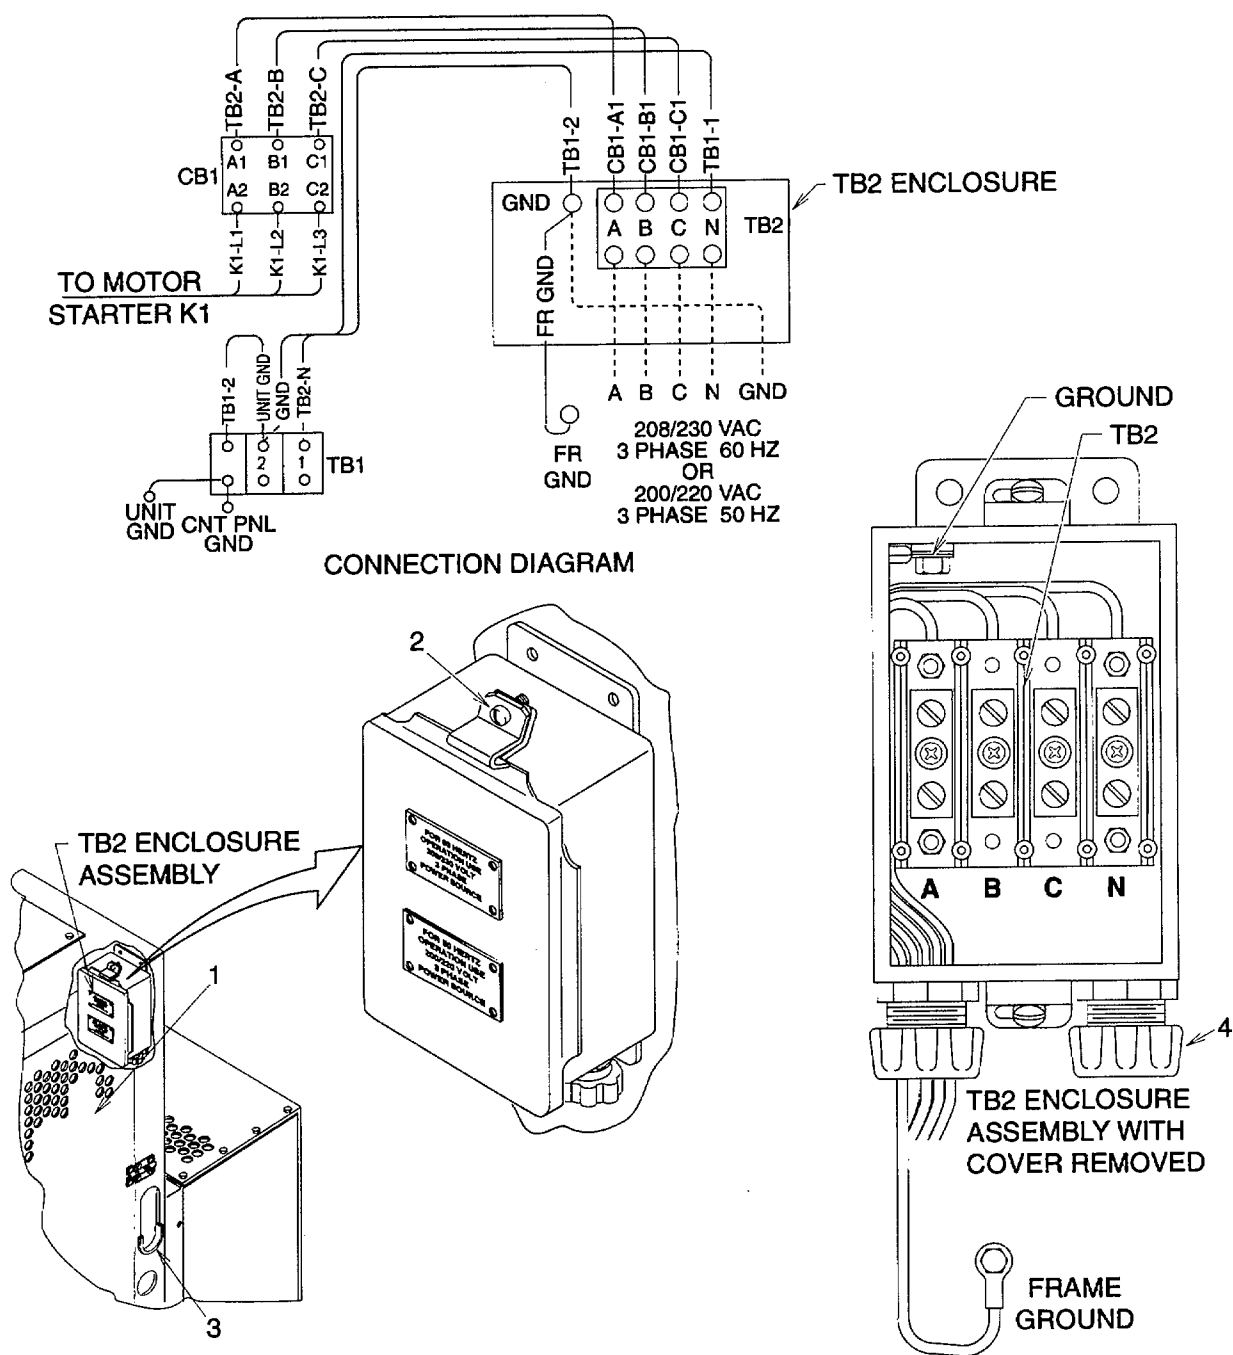

Figure 4-3. Input Power Connection
- (1) Open right side door (1, fig. 4-3).
- (2) Loosen two screws (2) and open enclosure assembly door.